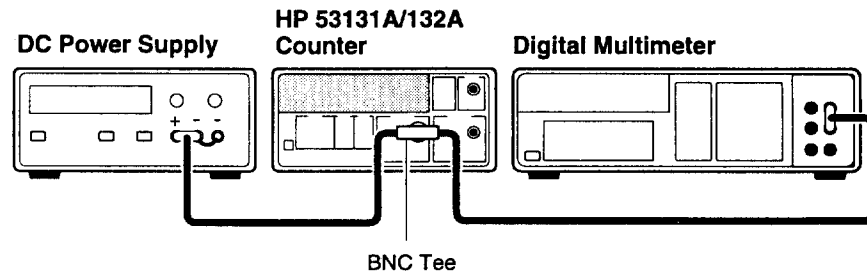

Figure 2-2. Gain Calibration Setup
- 4 **Connect the Counter, dc power supply, and digital multimeter as shown in Figure 2-2.**